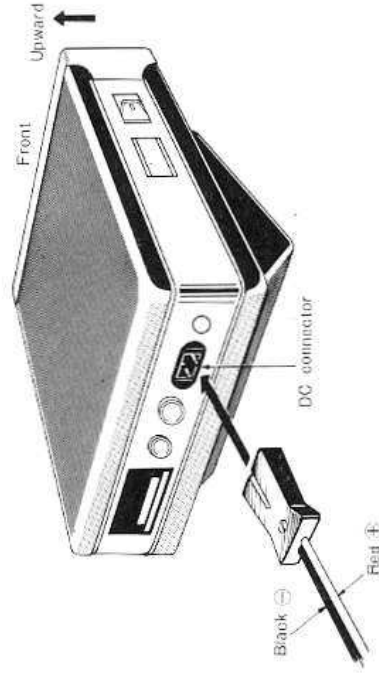

Fig. 8. Power Cord Connection
1. Connect power, antenna and microphone to the set. Since the power cord has (+) and (-) polarity, confirm proper polarity when connecting the cord to the battery posts and set. (Refer to Fig. 8.)